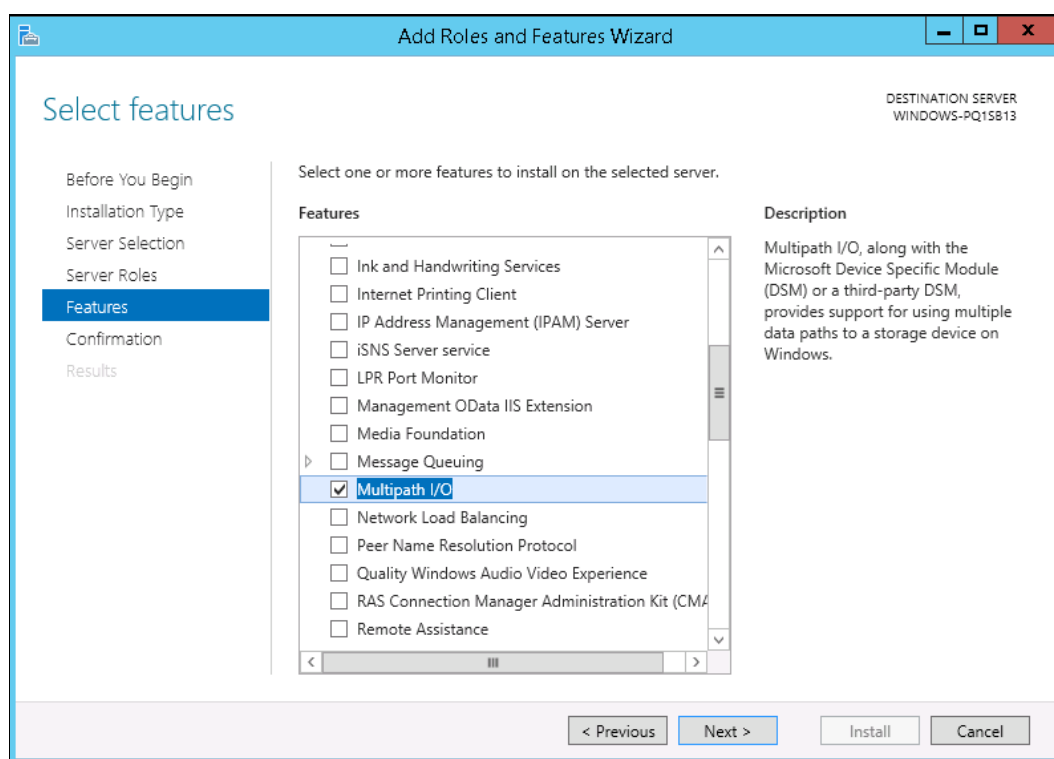

Figure 3-1 Selecting the Multipath I/O feature
2. For Windows Server 2016 and 2012 R2 click **Next** at the bottom of the dialog until Select Features is displayed and then select **Multipath I/O** in the Features window, as shown in Figure 3-1.